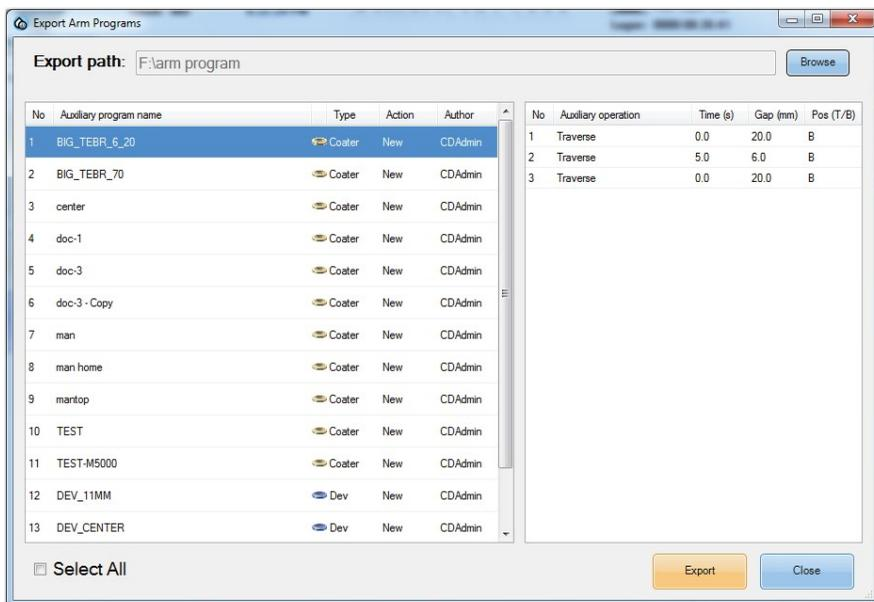

FIGURE 3-7: Exporting arm programs
1. On the Arm Programs page, click **Backup**. The Export Arm Programs dialog box opens. See Figure 3-7.